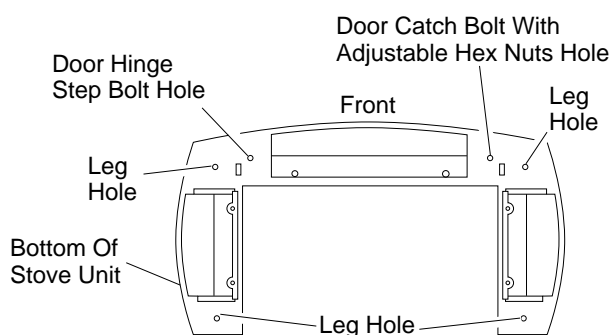
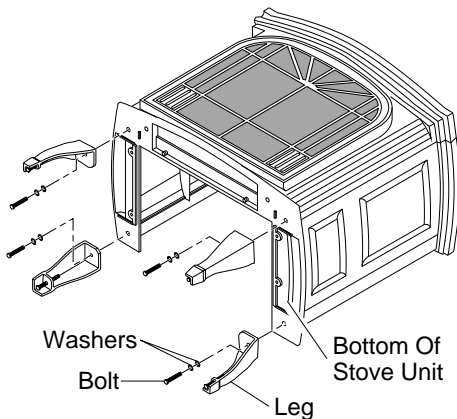
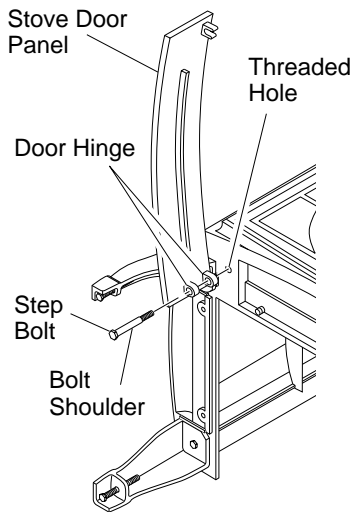
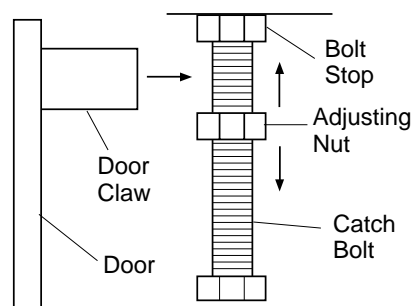

Figure 9 - Locating Threaded Holes for Legs and Door Attachment
Figure 10 - Attaching Stove Legs
Figure 11 - Attaching Lower Stove Door Panel
Figure 12 - Catch Bolt and Door Claw Orientation
8. Fasten each leg to stove with four (4) M8 x 1.25 - 20mm bolts. Use a flat washer and lock washer with each bolt. Tighten bolts into threaded holes on stove body (see Figure 9 and Figure 10, page 6). Use an adjustable wrench or a 12mm socket.
- Attach stove door by inserting step bolt through door hinge pivot hole and into threaded hole in stove body (see Figure 9, page 5 and Figure 11). Use an adjustable wrench or a 12mm socket to fasten step bolt. Tighten step bolt until snug. Make sure door moves freely.
- Install door catch bolt (M8 x 1.25-55mm with two M8 hex nuts) into threaded hole on stove body (see Figure 9, page 5). Use an adjustable wrench or a 12mm socket. The catch bolt has two hex nuts attached to it (see Figure 12). The top nut is a bolt stop and the bottom nut is for door leveling adjustment.